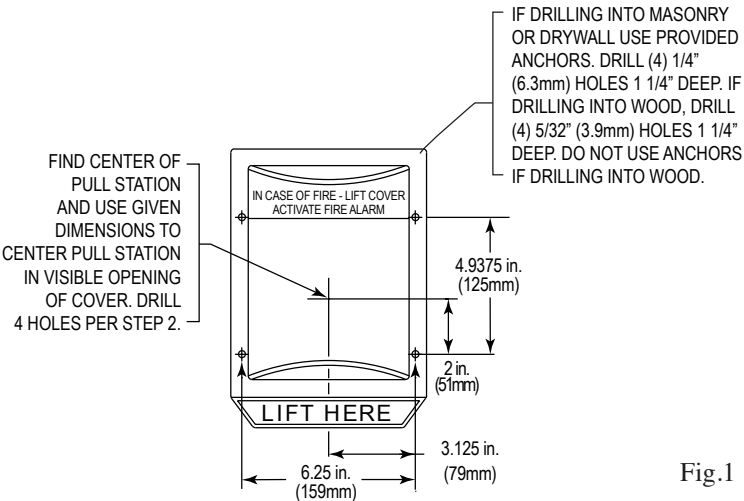

Fig.1
1. The power switch is in the "OFF" position (Fig. 5). Using frame or optional STI-1280 backplate (recommended with all Weather Stopper® models) as a template, mark mounting holes on wall taking into consideration placement of pull station or refer to Fig. 1 for dimensional hole placement from center of clear opening. **NOTE:** Be sure cover will not interfere with operation of the pull station when installed.